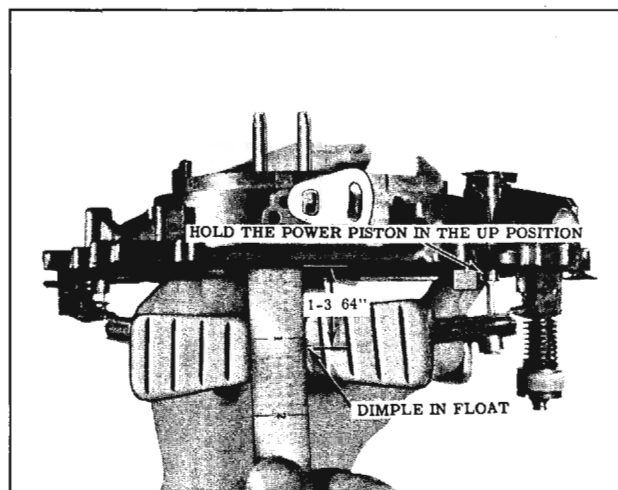

Fig. 9-20 Checking Vacuum Assist Spring
1. Position the air horn as shown in Fig. 9-20, with the power piston retained in the up position.